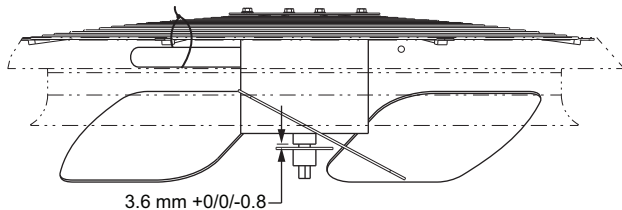

Fig. 41 — Outdoor Fan Blade Position
4. Adjust fan height as shown in Fig. 41.